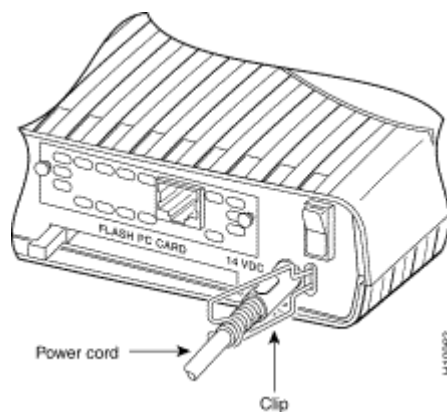

Figure 1
- Step 1** Connect the DC power cable (included with the router) from the power supply to the DC power input on the rear panel of the router. (Figure 1)
- Step 5** Slip the wire clip over the power cord to ensure that the power cord remains attached to the router, as shown in Figure 1.